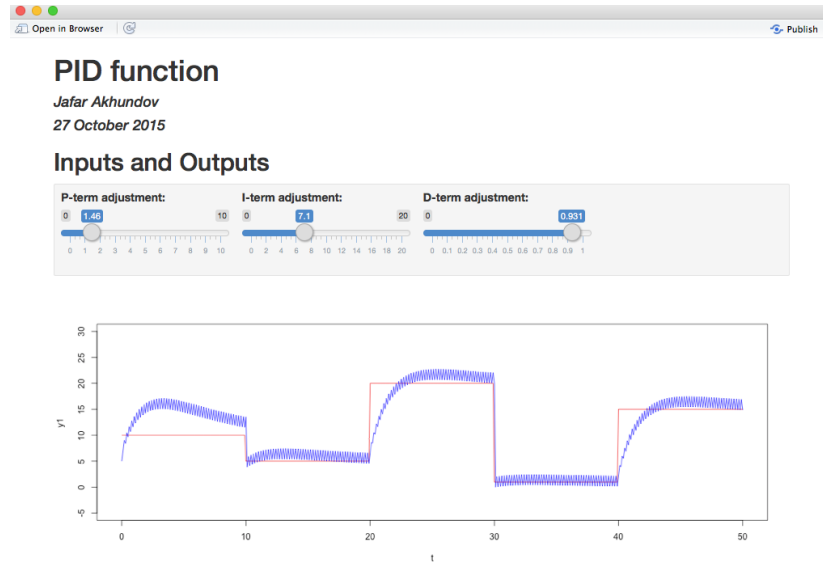

Figure 1: Correct PID Simulator in RStudio
- What corrections must be done in Block D to implement a correct PID controller? You can check that your corrections are valid by comparing the resulting simulation with the screenshot given in Figure 1.